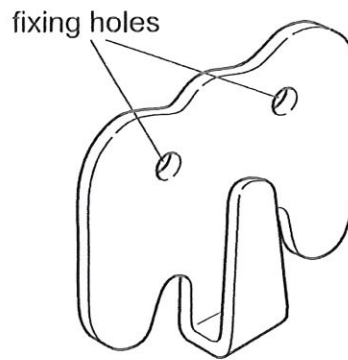

Fig. 5.1
- 5 Fig. 5.1 shows a coat hook for a child. The coat hook is made from 5 mm thick acrylic and will be batch produced.